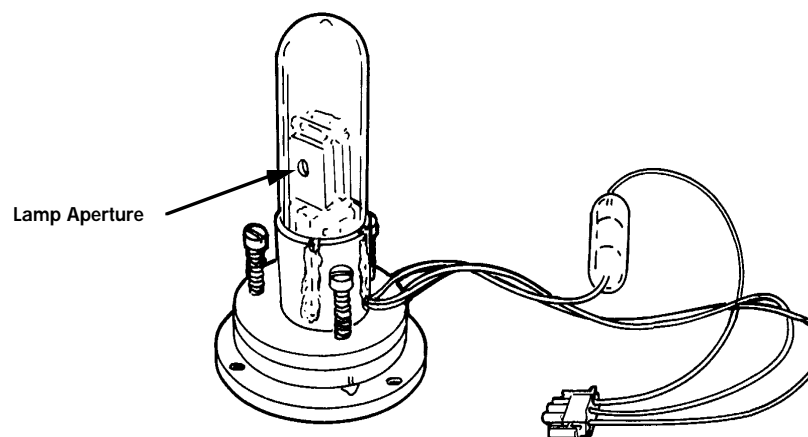

Figure 5-14 Lamp Assembly and Adjustment Plate
5. From the top of the lamp assembly, remove the center adjustment screw with the star washer and the hex nut. Place the lamp assembly on a flat surface with the bulb positioned upward (Figure 5-14).
Figure 5-14 illustrates the lamp aperture and adjustment plate.
Unpack the lamp from its packing material. The new lamp may vary slightly from the lamp illustrated in Figure 5-14.